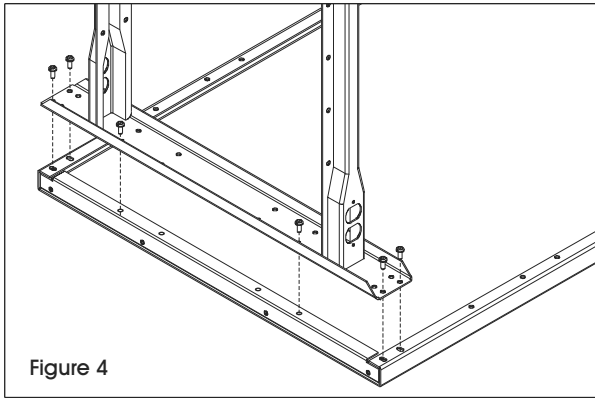

Figure 4
1. Align leg holes to end of tabletop. Secure with six 1/4"-20 x 5/8" bolts. Threaded inserts are provided on each tabletop end. (See Figure 4)
1. Align leg holes to end of tabletop. Secure leg (2) with eight 1/4"-20 x 5/8" bolts. Threaded inserts are provided. (See Figure 4)